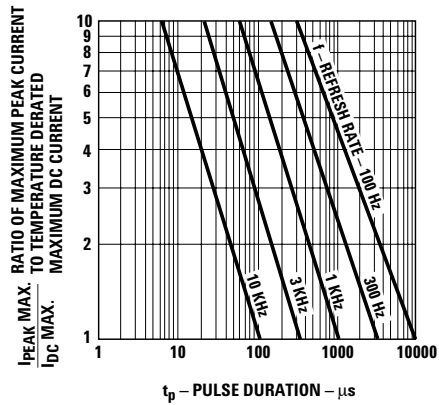

Figure 6. Maximum tolerable peak current vs. peak duration ($I_{PEAK \text{ MAX.}}$ determined from temperature derated $I_{DC \text{ MAX.}}$).
2. Refer to Figure 6 to establish pulsed operating conditions.